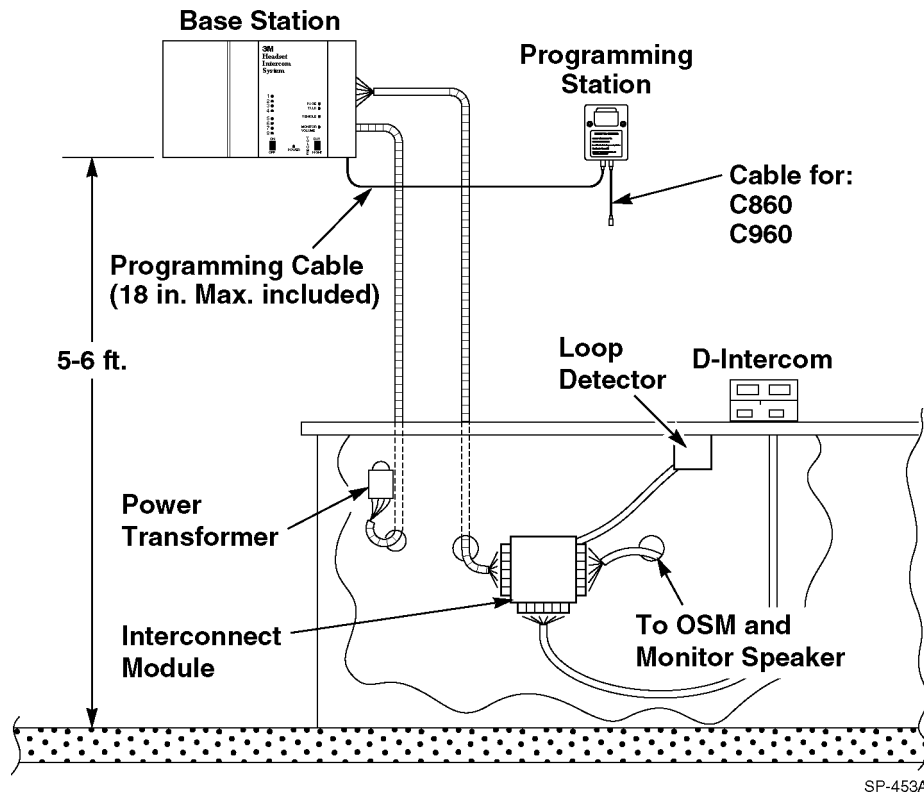

Figure 1. Typical Installation
| Figure 1. Typical Installation | 1 |
4. Feed the cables for speaker, microphone, vehicle detect and monitor speaker (if used) through the conduit down to the interconnect module or base station. (See Figure 1.)
5. Feed the transformer cable from the outlet to the base station. (See Figure 1.)